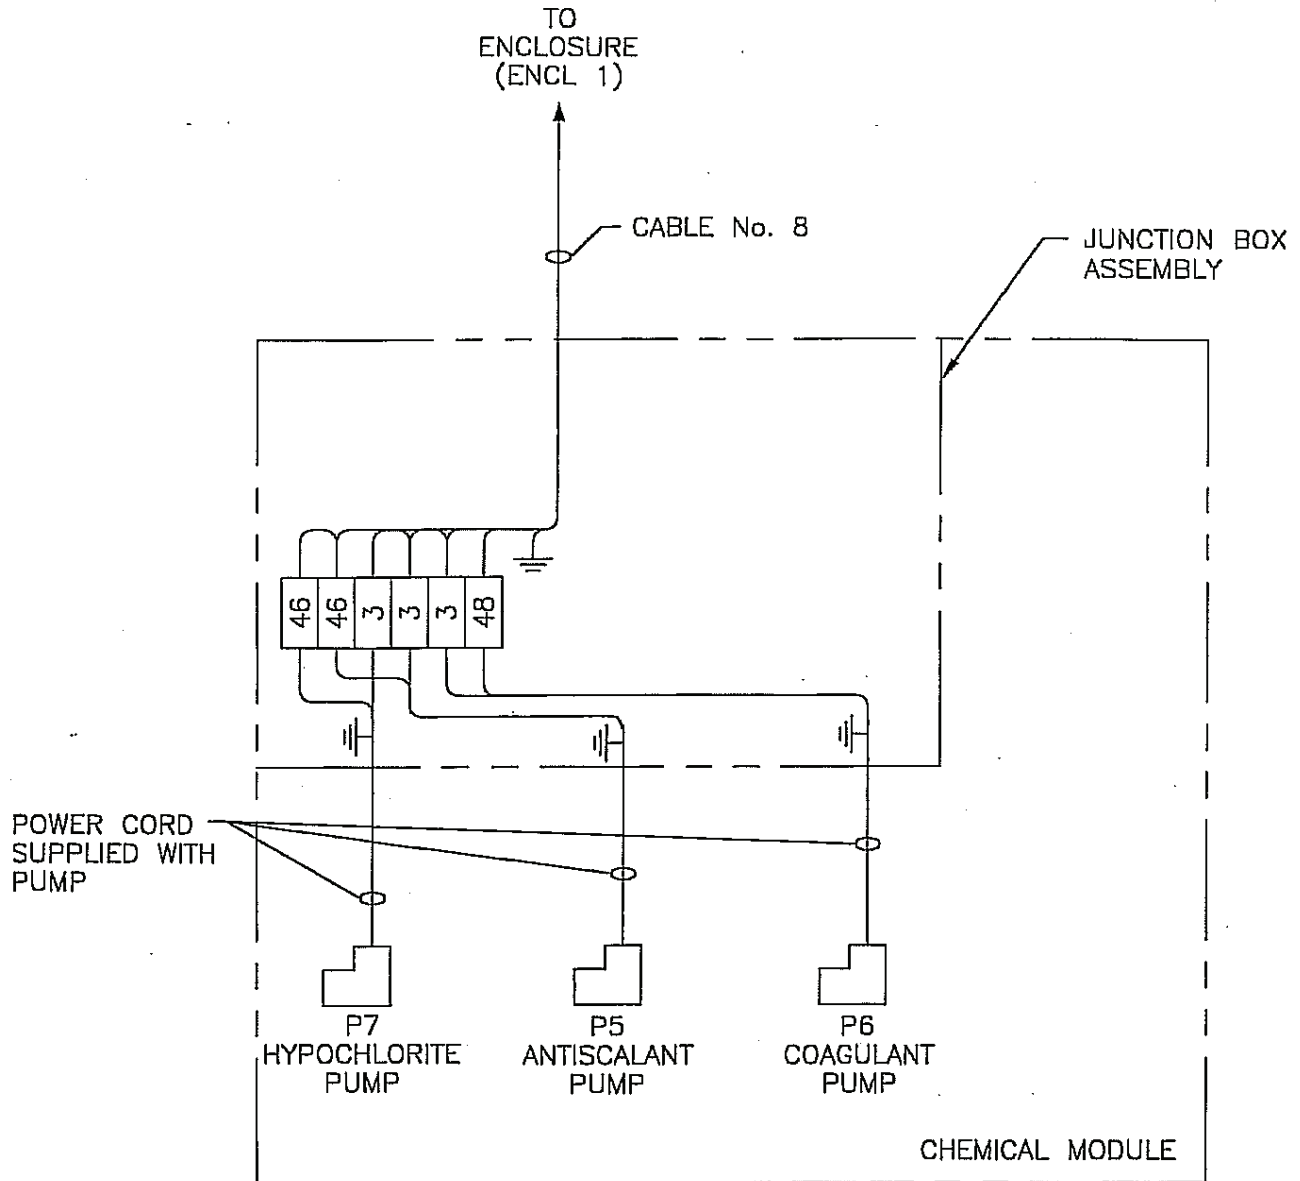

Figure 4. Chemical Module Wiring Diagram.
2. Position junction box assembly on module. Secure with four (4) machine screws, flat washers and new lock nuts.
4. Connect wiring to terminals on terminal block. Reuse the wire number tags from old wires. Refer to Figure 4.